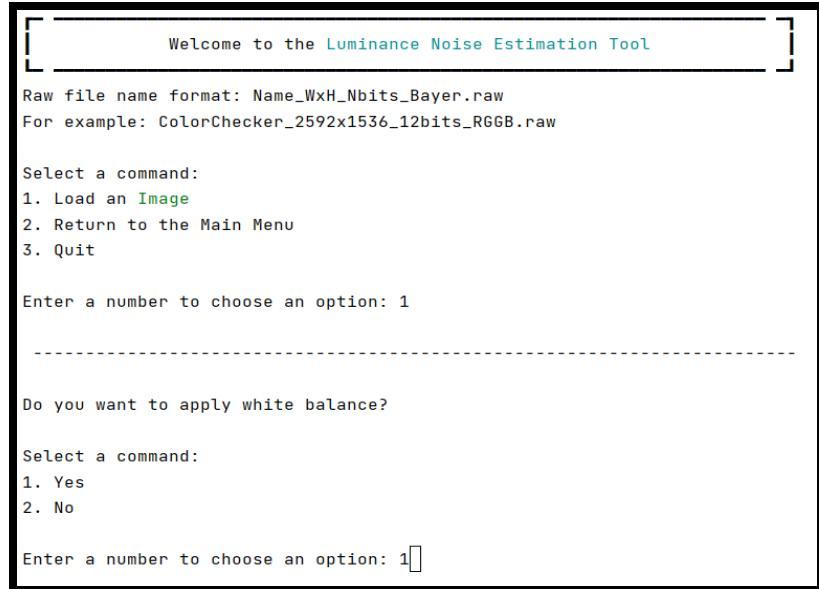

Figure 30: White balance choice for LNE module
- Apply White Balance: After selection of patches, user will be asked if user want to apply white balance on the selected image as shown in Figure 30. Press either 1 or 2 to choose between Yes and No. If raw image is selected, white balance is automatically applied.